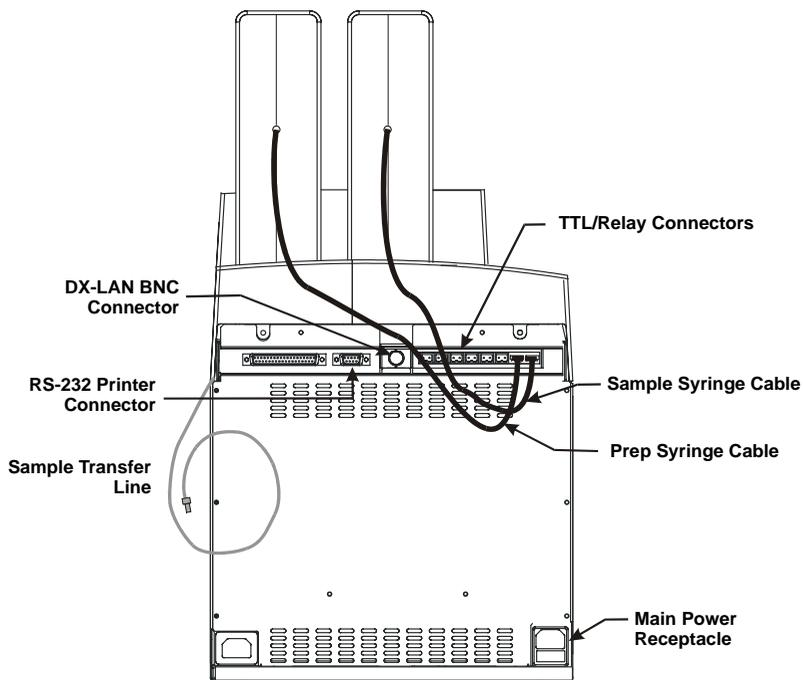

Figure B-4. AS50 Rear Panel Connections
Refer to Figure B-4 when completing the following steps.
- a. Note the two small locking pins on either side of the DX-LAN BNC connector on the rear panel (see Figure B-4).